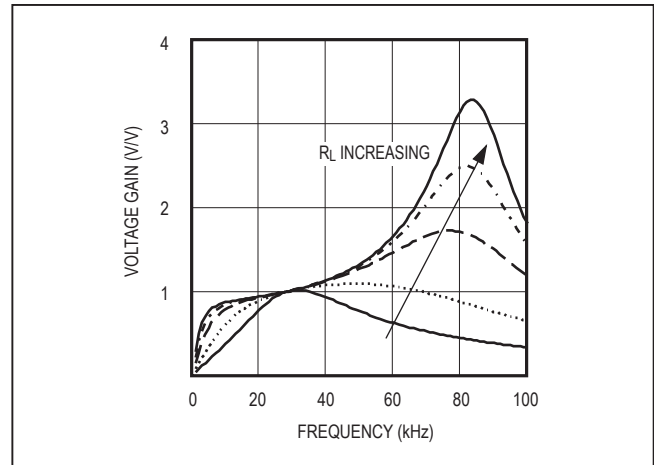

Figure 8. Frequency Response of the Resonant Tank
Figure 8 shows the frequency response of the resonant tank's voltage gain under different load conditions. The primary series capacitor is 1μF, the secondary parallel capacitor is 15pF, the transformer turns ratio is 1:78, and the secondary leakage inductance is 260mH. Notice that there are two peaks,  $f_S$  and  $f_P$ , in the frequency response. The first peak,  $f_S$ , is the series resonant peak determined by the secondary leakage inductance (L) and the series capacitor reflected to the secondary ( $C'_S$ ):